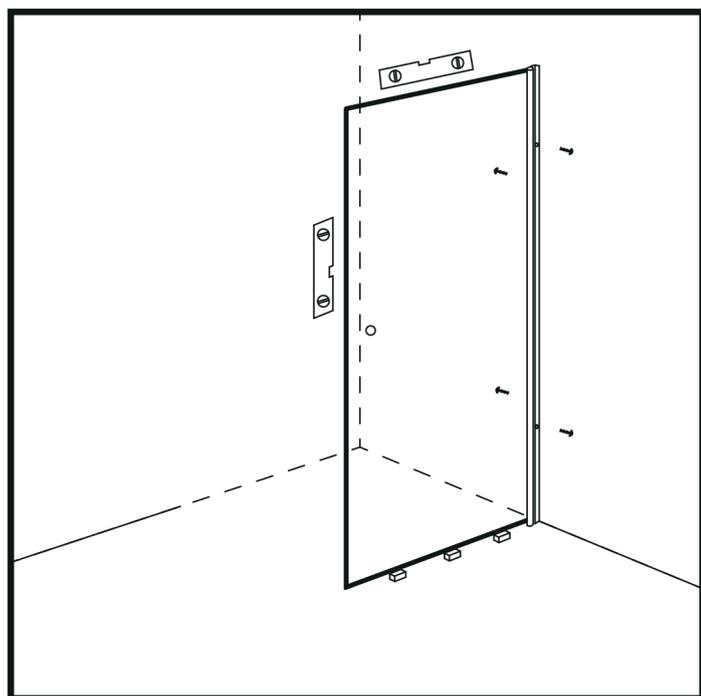

Figure 6
12. Mark the screw mounting positions on the profile from both inside and outside the shower. Measure and mark one side of the profile about 10 cm from the top and bottom, and the other side at about 20 cm. To ensure the shower glass stays firmly in place, it is important that the screws are not aligned with each other. (Figure 6)